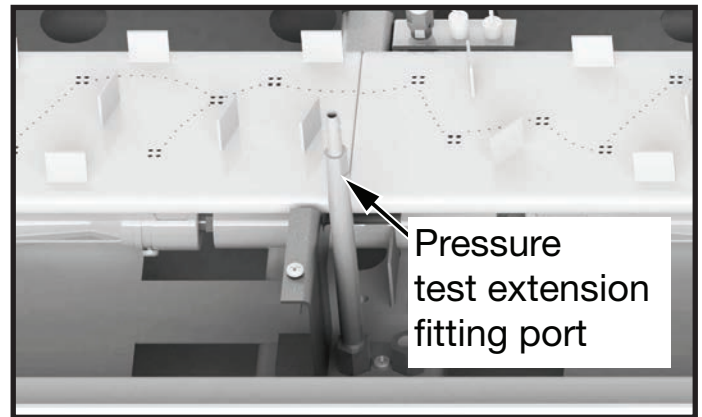

Figure 48: Pressure test extension fitting.
3. Thread the extension test fitting into the open port (Figure 48).